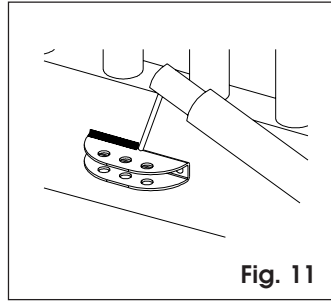
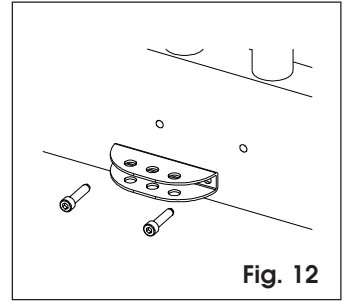

Fig. 11
Fig. 12
- The coupling may be welded directly onto the leaf (Fig. 11) or screwed by using the threaded inserts (Fig. 12).